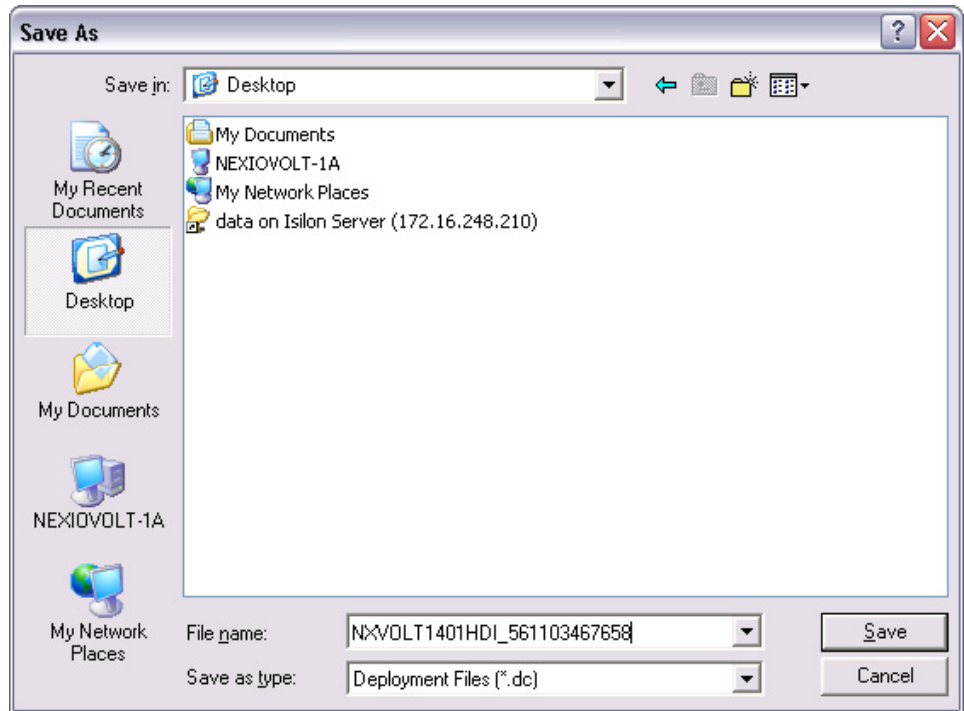

Figure 3-3 Save As Dialog Box
- 4 Name the deployment (**.dc**) file using the server name and the serial number of the server (see Figure 3-3), and save it to a USB stick.